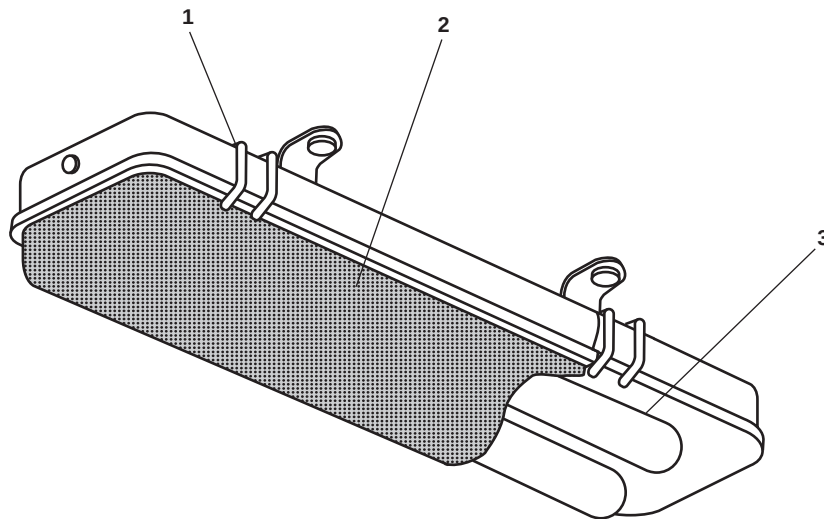

Figure 1. Fluorescent Light, Surface Mount
1. Release the latches (figure 1, item 1) that secure the diffuser (figure 1, item 2).
2. Remove the diffuser (figure 1, item 2).
3. Remove the fluorescent lamps (figure 1, item 3) from the fixture.
1. Install the fluorescent lamps (figure 1, item 3) in the fixture.
2. Install the diffuser (figure 1, item 2) in the fixture and secure it with the latches (figure 1, item 1).